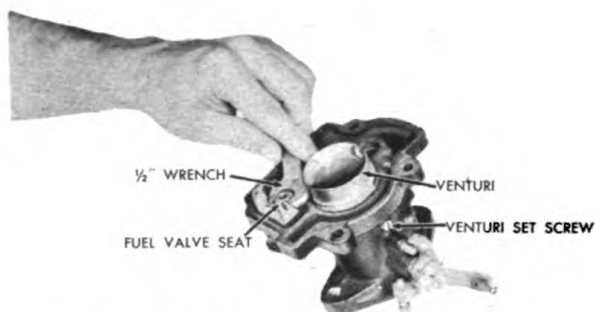

Figure 257. Removing or installing Fuel Valve Seat.
I. Remove fuel valve seat and fibre washer using a 1/2" socket wrench. Figure 257.